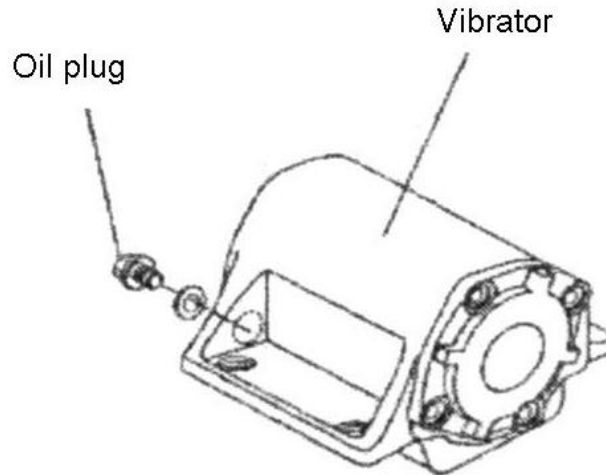

Figure 5.Vibrator Oil Plug
2. Check vibrator oil level by removing the plug (vibrator oil gauge) as shown in Figure 5. The oil level should be up to the oil plug. The vibrator holds 140cc (approximately 1 pint). **IMPORTANT!** If oil is required, replace using only SAE 10w-30 motor oil.
1. When changing the vibrator oil, remove the drain plug located at the bottom-right of the vibrator (Figure 5), and simply tip the compactor to drain the oil. Note that the oil will drain more easily while it is hot. Remember to use only 10w-30 motor oil when replacing vibrator oil.